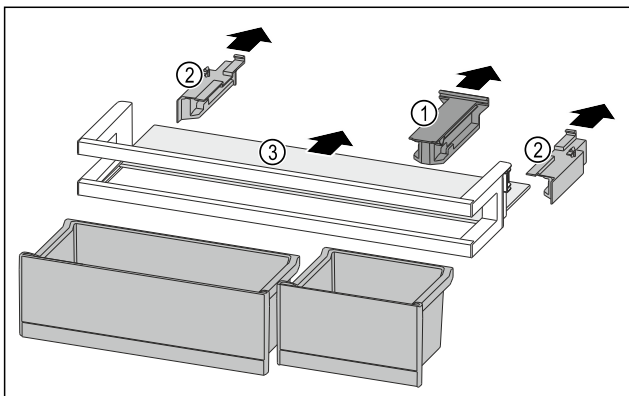

Fig. 170
- ▶ Pull off the holding part Fig. 170 (1).
- ▶ Pull off the side parts Fig. 170 (2).
- ▶ Remove the shelf Fig. 170 (3).